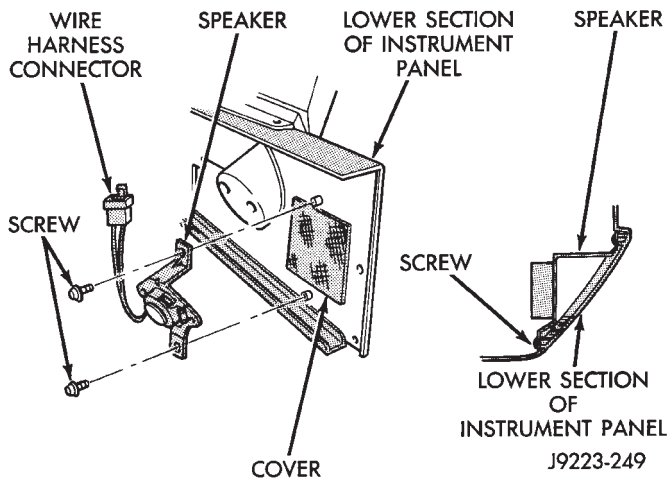

Fig. 7 Tweeter Speaker Removal/Installation
(4) Remove speaker screws and speaker from lower instrument panel (Fig. 7).